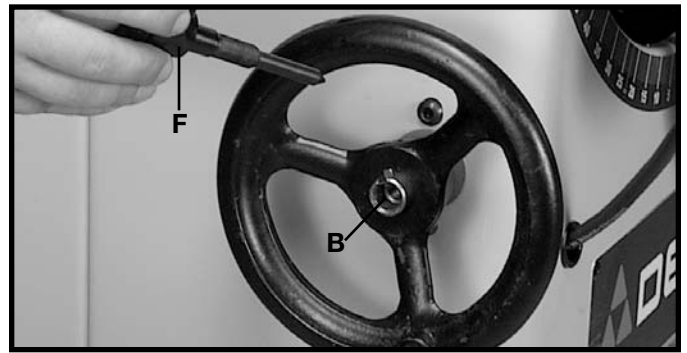

Fig. 6B
4. Install lock knob (F) Fig. 6B, into threaded end of the shaft (B). Hand-tighten lock knob at this time. (**Do not over tighten - see "Blade Raising Mechanism"**)